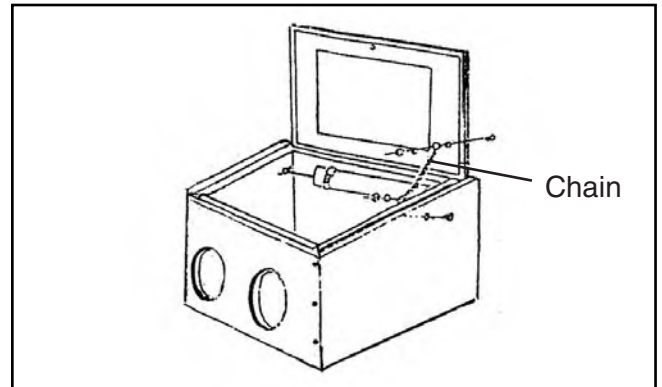

Figure 6. Window chain.
6. Install the chain to the window and cabinet with the screws and nuts (**Figure 6**).